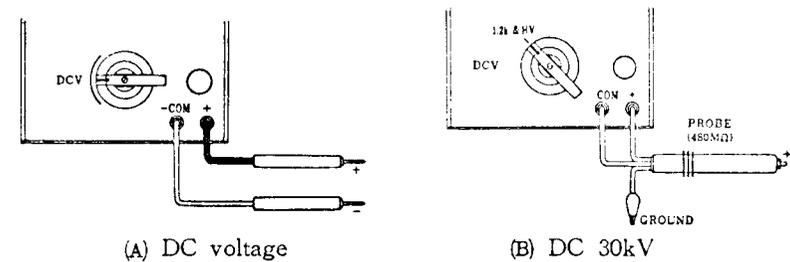

Fig. 5
Fig. 5 (A) and (B) illustrate how the test leads are connected for DC voltage measurement. For the (B) connection of an HV probe, the range switch should be positioned at DC- 1.2k & HV, and reading is noted on the black scale just below the mirror marked DCV·A.